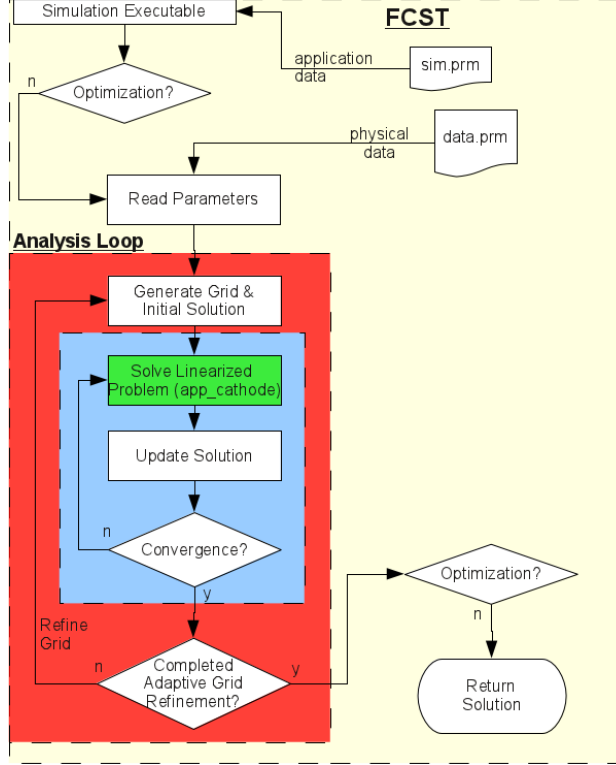

Figure 6.1: Schematic of Fuel Cell Analysis Code.
The main file already contains the path to the other files, so only this file is needed. Upon issuing this command OpenFCST will select the desired simulation to run, read the fuel cell parameters from the different files, and then solve the required finite element problem. The program flowchart is given in Figure 6.1. The output of the program is shown on screen and also recorded in a file, i.e., **logfile.log**.
- **solver method**: This entry can be used to add an additional loop during the solution stage after the analysis loop (see Figure 6.1).